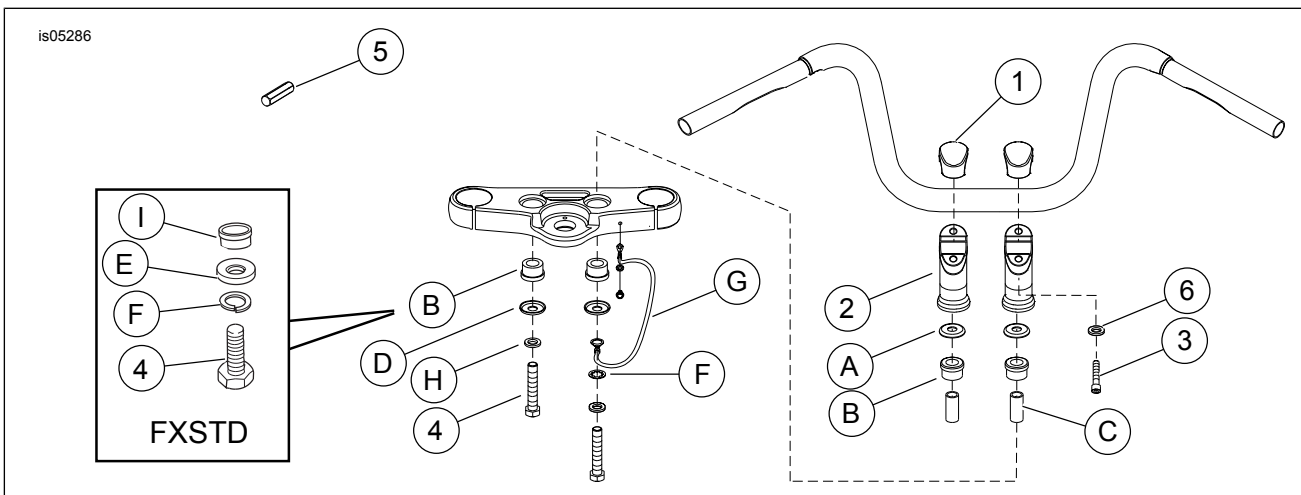

Figure 3. Service Parts: Handlebar Riser Kit (FXDL Shown)
See Figure 3 and Table 1.
See Figure 3. The upper cup washer (A) must be oriented with the flat side up and the lower cup washer (D) with the flat side down.
1. See Figure 3. Align the components as shown, and install the risers (2) to the upper fork bracket. The ground wire (G) and the lock washer (F) are located on the right side only. Do not tighten the riser mounting screws (4) at this time.